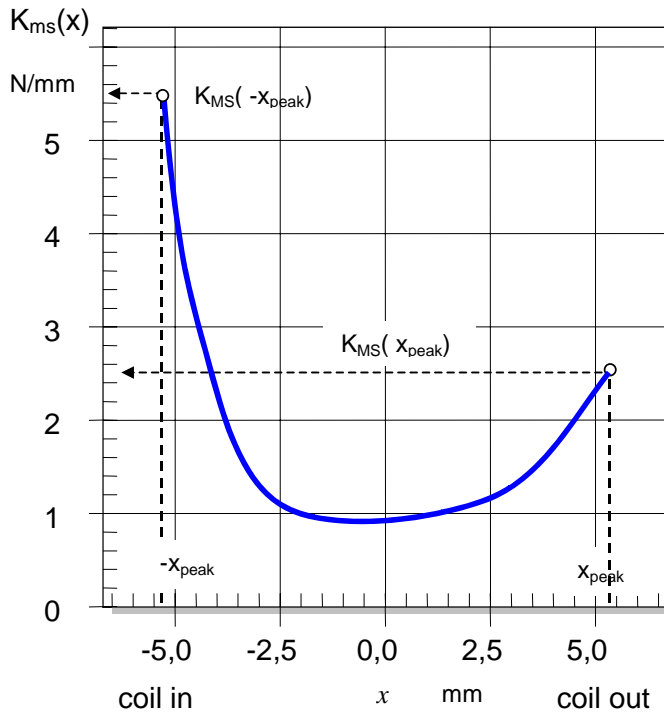

Fig. 5: Reading the stiffness asymmetry A_K .
The definition is illustrated in Fig. 5 showing a $K_{MS}(x)$ -curve measured by the Large Signal Identification (LSI) module of the KLIPPEL R&D system (curve not available in MSC):
1. Read the stiffness values at positive and negative peak displacement X_{peak} in the measured $K_{ms}(x)$ curve as illustrated in Fig. 5.
2. Calculate the stiffness asymmetry using Eq. (4).